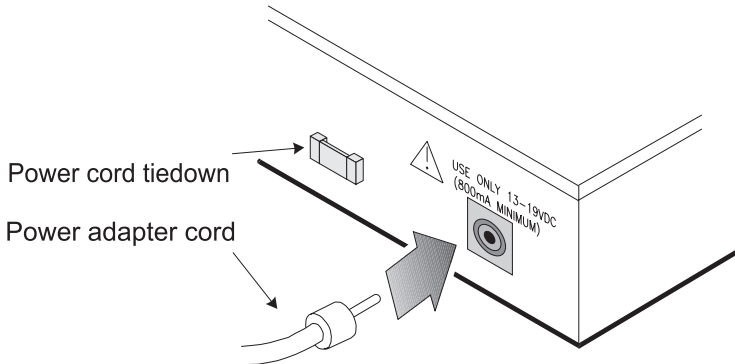

Figure 2-2. Connecting the Power Cord to the Switch
1. Connect the power adapter to the switch and to a grounded three-prong wall outlet (Figure 2-2). Secure the power cord to the tiedown bracket on the back of the switch to prevent it from being accidentally disconnected from the switch. See Appendix A, "Power Adapter Set Requirements," for more information regarding specific international power adapter requirements.